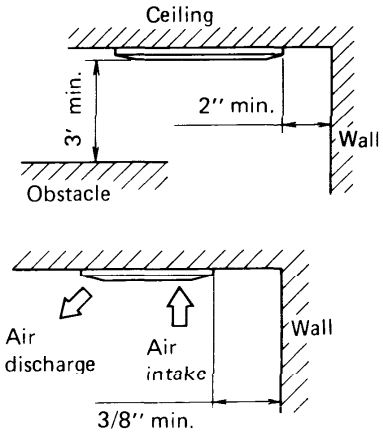

Fig. 1
- allow room for operation and maintenance as well as unrestricted air flow around the unit. Fig. 1